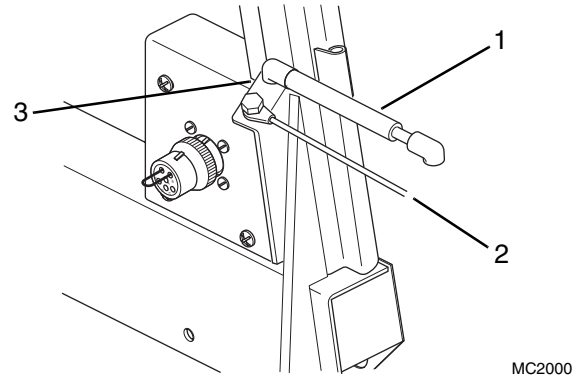

Figure 4-37 Gas Spring and Restraint Cable
- c. Disconnect the gas spring (Fig. 4-37, 1) and restraint cable (2) from the gas spring mounting bracket (3) inside the Operator's Protective Structure.